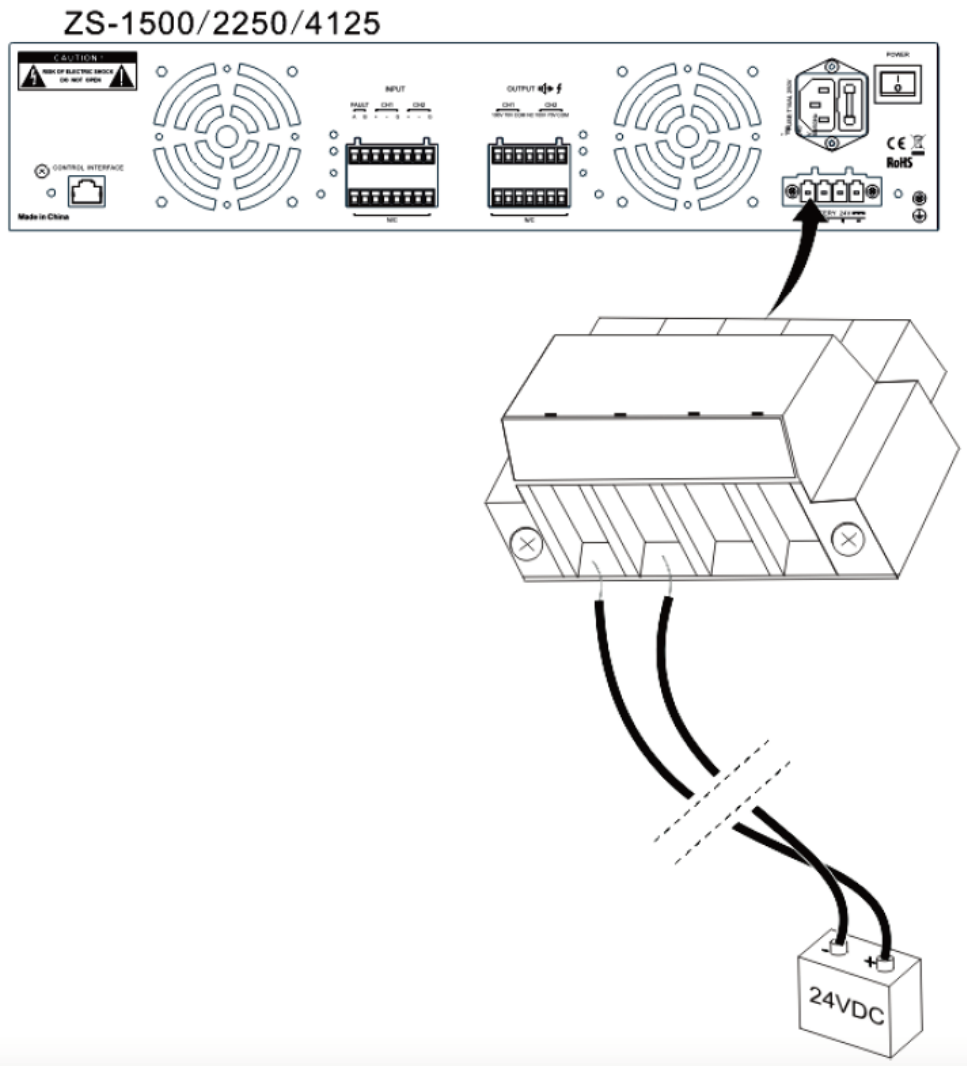

Figure 34 Schematic Diagram of the ZS-1500/ ZS-2250/ ZS-4125 Standby Power Supply Cable Connection
1. Strip off the wire jacket of one end of the prepared standby power supply cable by 20mm and connect the cable to the standby power supply wiring terminal, as shown in Figure 34